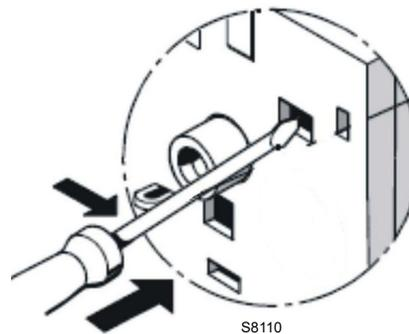

Fig. 28
- To test the thermal relay, insert a screwdriver in the window "TEST" (Fig. 28) and move it in the sense of the arrow (towards right).
- **Contact test NC (95-96) and NO (97-98)(Fig. 28)**